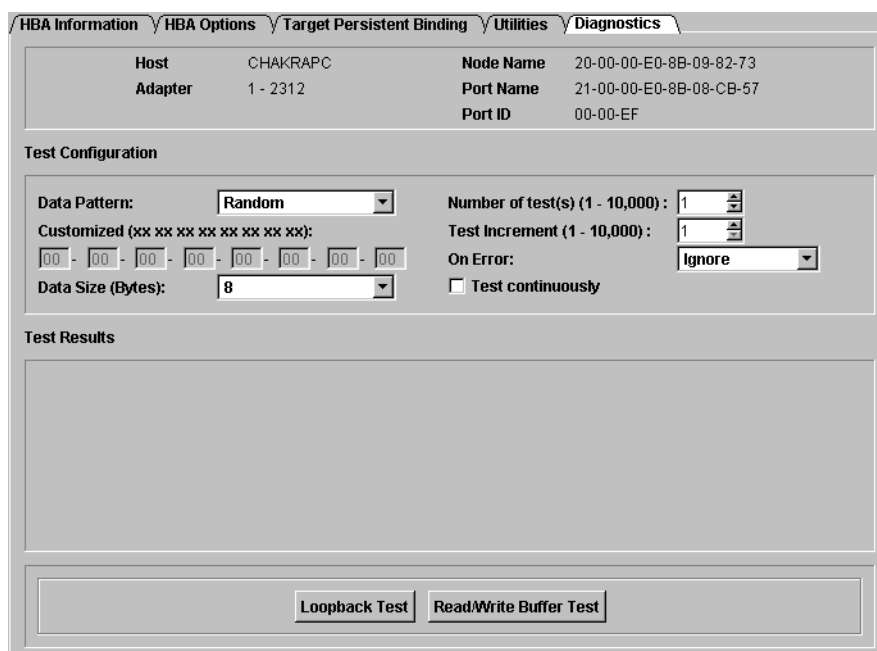

Figure 14-30. Diagnostics Tabbed Page
2. Click the **Diagnostics** tab. The **Diagnostics** tabbed page displays (see figure 14-30). The diagnostic test parameters are in the Test Configuration section.